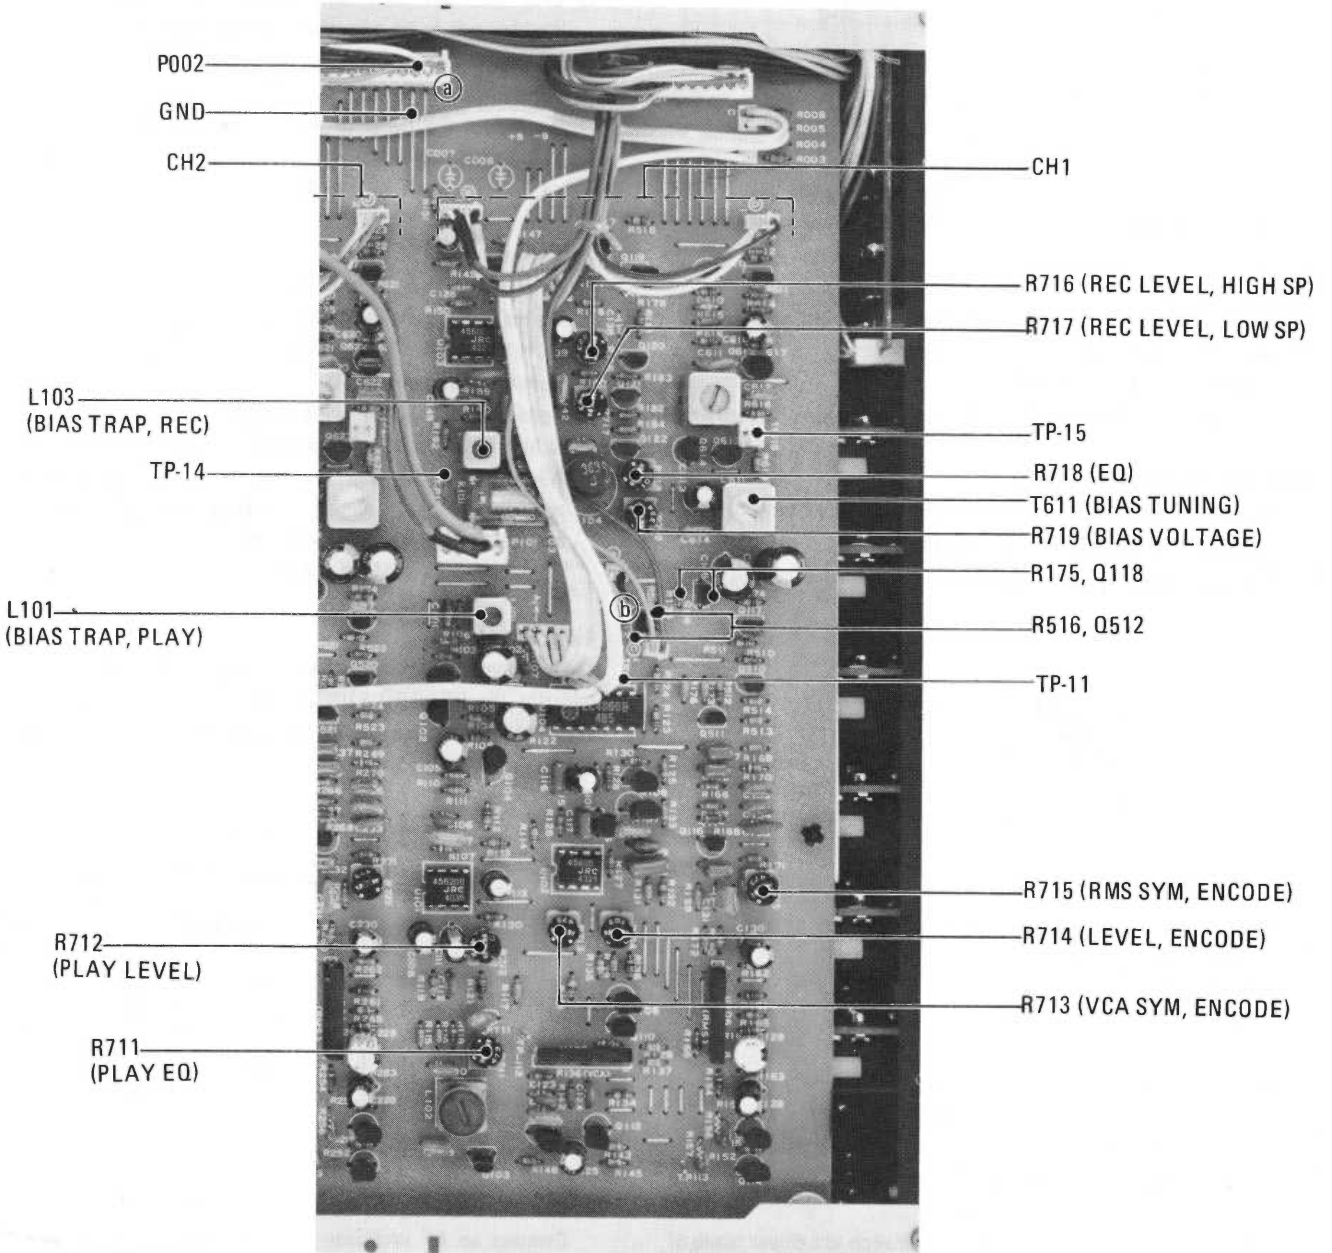

Fig. 4-6-1
- 2) Playback a test tape MTT-150, 400 Hz, and adjust the trim pot R712 for -7 dBV (447 mV) reading on the level meter. (Refer to Fig. 4-6-1) Under this condition, the VU meter will deflect  $VU \pm 1$